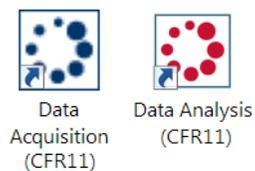

Figure B-16: Data Acquisition or Data Analysis Software Desktop Icons
1. Launch the Octet System Data Acquisition or Data Analysis software by double-clicking the respective desktop icon; see Figure B-16.